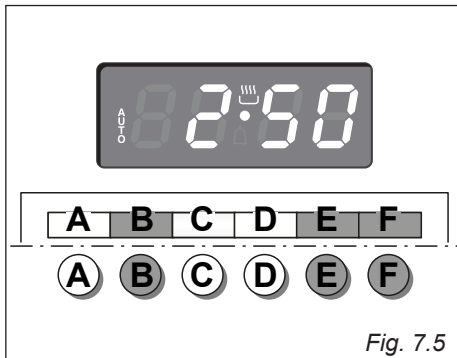

Fig. 7.5
1. Set the length of the cooking period by pushing the "B" button and the "F" button to increase or "E" to decrease if you have passed the desired time (fig. 7.5). The **AUTO** and the  symbol will illuminate.